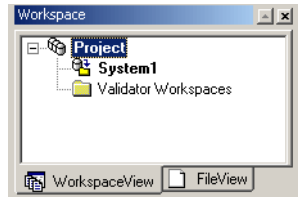

Figure 18: Workspace browser with Project
The workspace will be saved. See example of workspace in *Figure 18*, page 27.
- 3 Return to the Navigator. Click **Reload** if the Reload message is displayed, to update the Project in the workspace. The new Project is created in the workspace. See example in *Figure 18*, page 27.